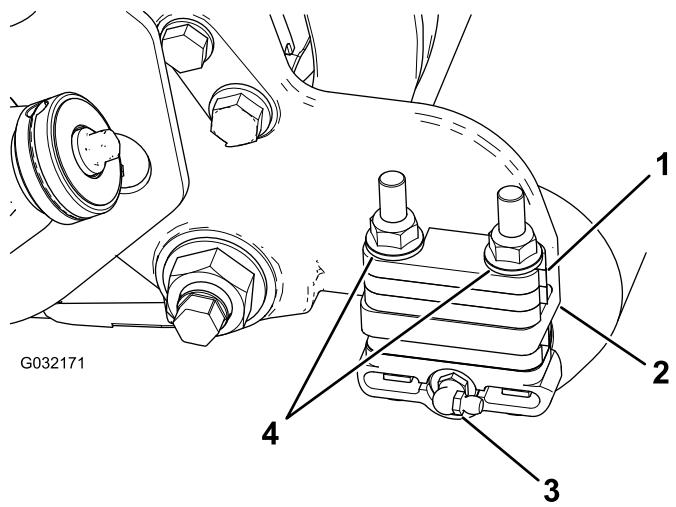

Figure 3
2. Remove the grease fitting for the roller from the side of the cutting unit that has the roller-brush housing (Figure 3).
4. Remove the 2 flange locknuts securing each roller bracket to the side plates, **as well as any 6 mm (1/4 inch) spacers positioned on the top side of the side-plate mounting flange** (Figure 3).